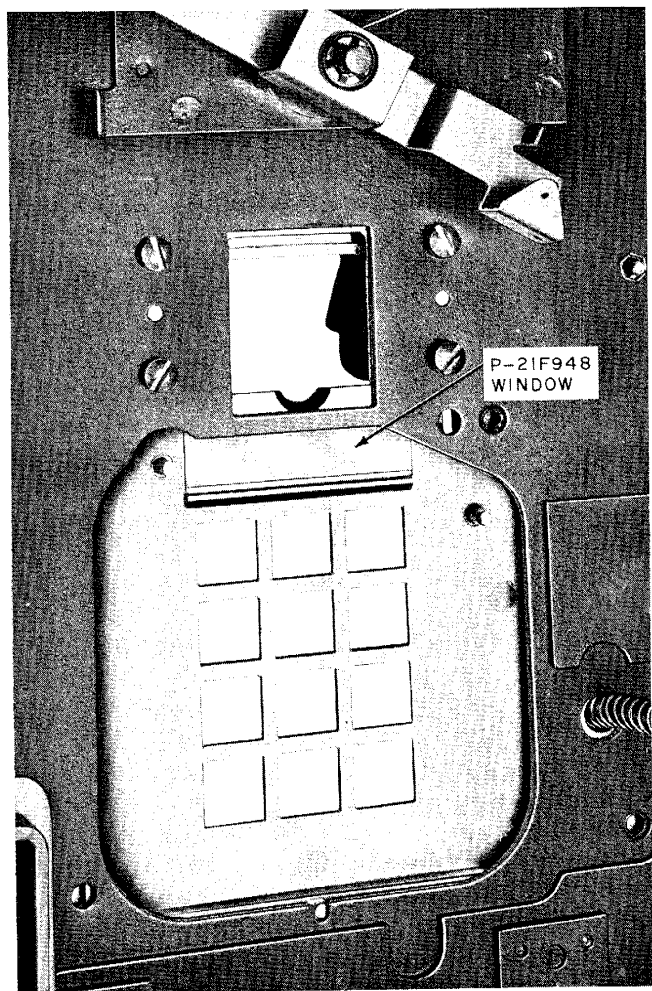

Fig. 14—Window Installed in Faceplate (1A2)
- (b) Insert P-21F948 window in faceplate from rear (Fig. 14).